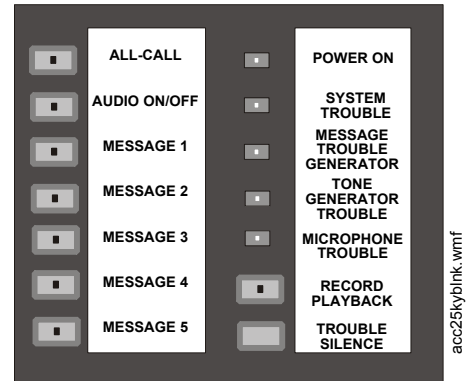

Figure 4.1 Controls and Indicators Single Zone Operation
Figure 4.1 depicts Single Zone operation with the maximum capacity of five messages. Single Zone may be configured for two to five message control (refer to Section 2, "Field Programming" on page 32).
4.4.1 LEDs Visible with Backbox Door Closed (Figure 4.1 on page 63)